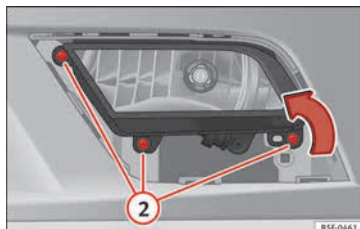

Fig. 111 Front fog light.
- Remove the bolts (3x) » **Fig. 111** **②** to remove the fog light.